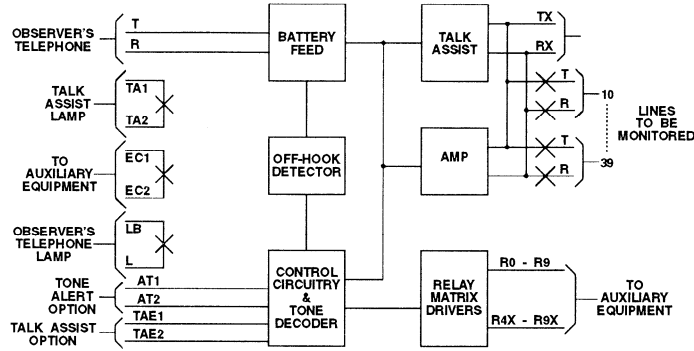

Fig. 1
4.5 When a lamp is used at the observer's telephone to indicate seizure of a line or station for monitoring, connect the station lamp lead to an L terminal of the connecting block, and lamp supply to the LB terminal. If necessary, derive lamp return ground from the common power supply ground. Refer to Figure 1.